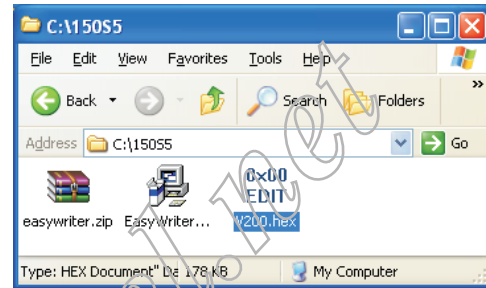

Fig. 5
Step 5 : Copy the V200.hex to C:\150S5 as shown in Fig. 5 .